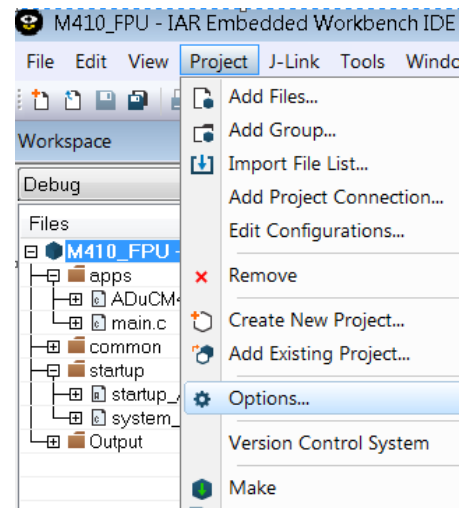

Figure 23. Selecting Options in the IAR IDE
The settings shown in the **Project** dropdown menu (see Figure 23) are available on the Keil and IAR software tool environment. By default, the floating-point unit (FPU) is disabled after the settings are disabled. Code to enable and output the floating-point value is added in the **SystemInit** function in the **system_ADuCM410.c** file. This file is located in the example program in the ADuCM410 installer folder named **M410_FPU** (under the **Files** list in Figure 23).
- After opening the IAR IDE, click the **Project** dropdown menu and select **Options** (see Figure 23).